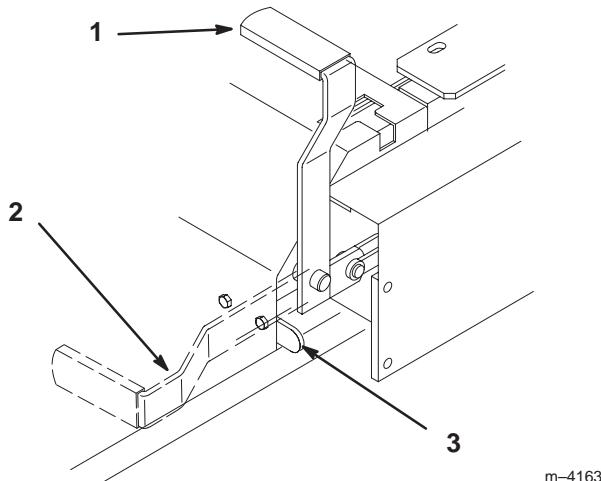

Figure 2
2. Pull back and up on the parking brake lever to set the parking brake (Fig. 2). The parking brake lever should stay firmly in the “ENGAGED” position.
- Push forward and down on the parking brake lever to release the parking brake (Fig. 2). The parking brake is “DISENGAGED” and the lever rests against the brake stop.